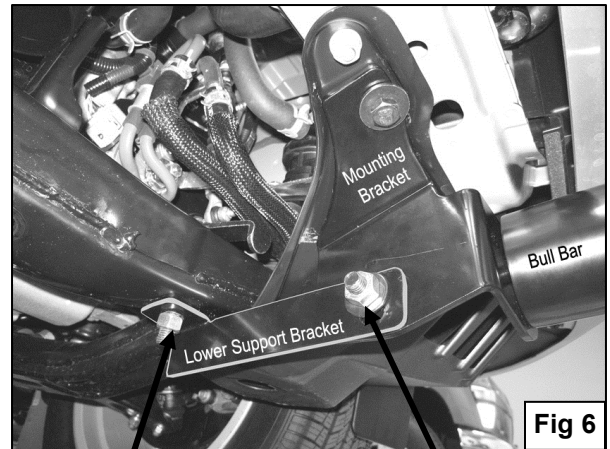

Fig 6
9. From the bottom of the cross member bar, place Lower Support Bracket over previously inserted Bolt Plate and secure it using the included (1) 12mm Nylock Nut and (1) 12mm x 29mm x 3mm Flat Washer (**Figure 6**). Do not tighten at this time.
10. Attach opposite end of Lower Support Bracket to the inside of Mounting Bracket using the included (1) 12mm x 30mm Hex Head Bolt, (1) 12mm Nylock Nut, and (2) 12mm Flat Washers (**Figure 6**). Do not tighten at this time.